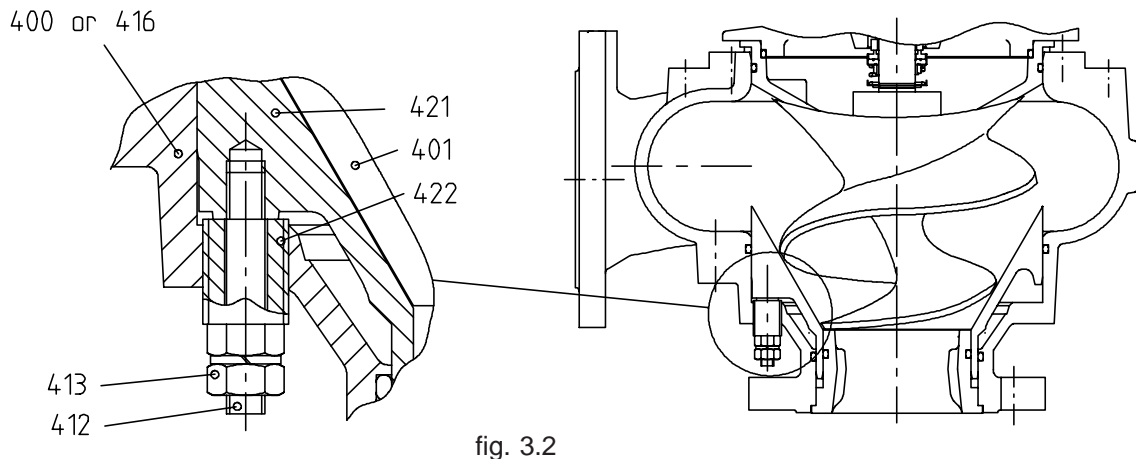

fig. 3.2
3.2 WAIERSPELING AFSTELLING BIJ SLIJTAGE, fig.3.2 en 3.5)
3.2.1 WAAIERSPELING AFSTELLING BIJ "NASTELBARE" POMPEN, fig.3.2